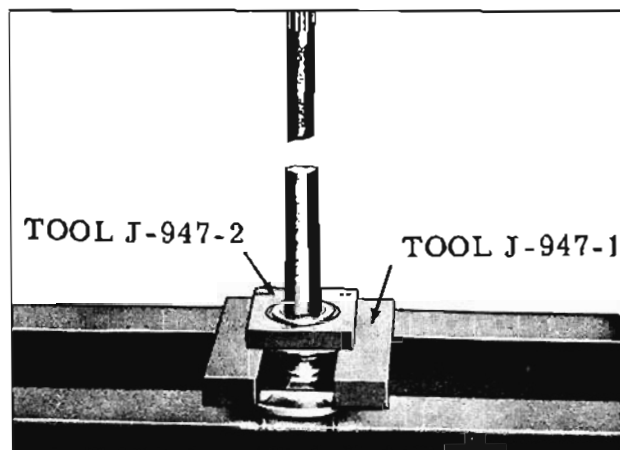

Fig. 9-42 Removing Axle Shaft Bearing
2. Engaging outer race of bearing with Tool J-947-2, used in conjunction with J-947-1, press off bearing in arbor press, (Fig. 9-42). Remove bearing only when a new bearing is to be installed. (Tool J-947-2 is used during removal to prevent breakage of the bearing outer race which could result in personal injury).